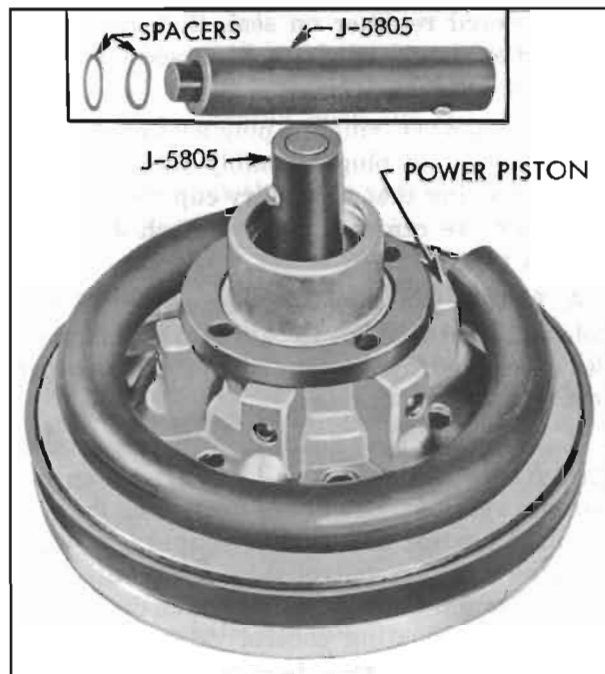

Figure 9-26—Checking Spacer Thickness
16. Set spacers (shims) on Gauge J-5805. Hold power piston assembly with air valve bore down and insert gauge and spacers as shown in figure 9-26. (The body of the gauge sets against the smaller reaction plate while the pin of the gauge extends through to contact the master cylinder piston.) Now turn whole assembly over to bring gauge on top and observe gauge pin in gauge body as shown in figure 9-26. **CAUTION:** Hydraulic master cylinder piston must be at lowest limit for correct use of gauge. Do not